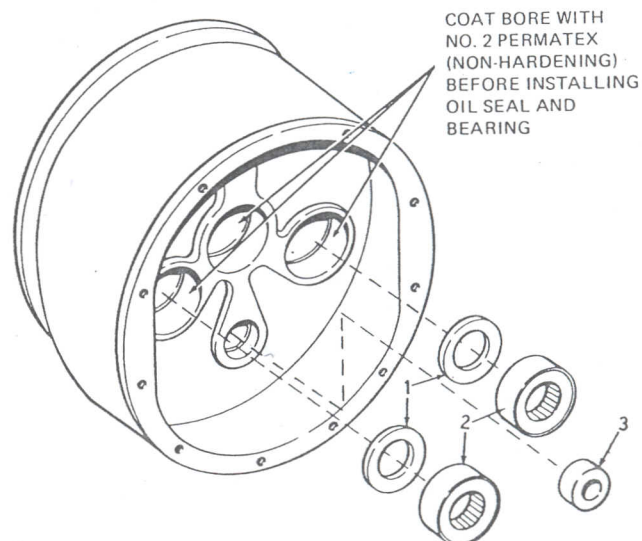

Figure 5-12. Hoist Gear Case
11. The bearings and oil seals (Figure 5-12, items 1 and 2) for the left and right hand drum pinion shaft assemblies and the bearing (3) for the load brake shaft are pressed into the gear case and should not be removed unless they are to be replaced. It is advisable to replace the oil seals.
3. Permatex the bearing bores as noted on Figures 5-12 and 5-18.